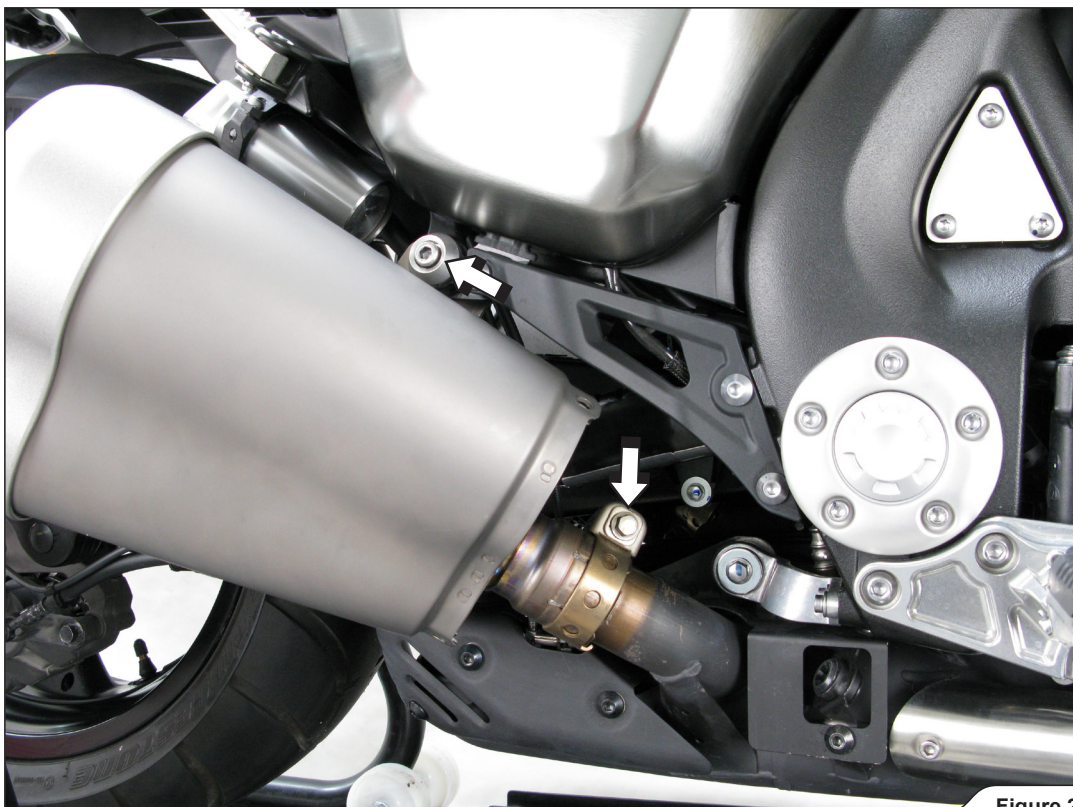

Figure 2
3. Unscrew the bolt from muffler sub-frame bracket and untighten the metal clamp at the muffler - catalytic converter box joint. Remove the stock muffler. Perform the process on both sides of the motorcycle (Figure 2).